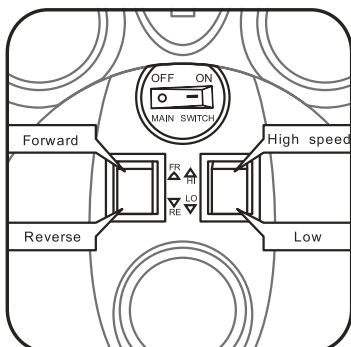

Fig.1 Forward/Reverse
1. First connect the battery wiring under the seat accordingly and push the main switch to “ON” position (Fig.1) before starting the motorcycle, the front and rear hazard light will flash when the power on.
2. Option for forward, reverse, high speed or low speed (Fig.1), for the beginners, option for low speed under guidance of an adult or parent and do not switch to forward, reverse at high speed to protect the transmission lift.